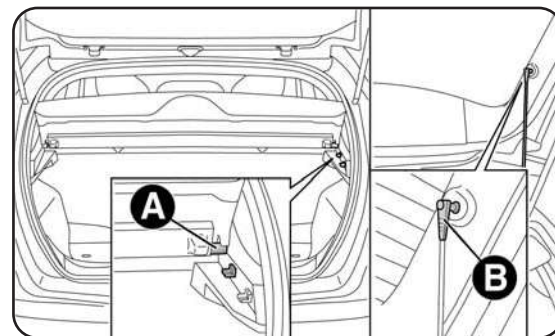

fig. 66
- release attachments A - fig. 66 (one on each side);